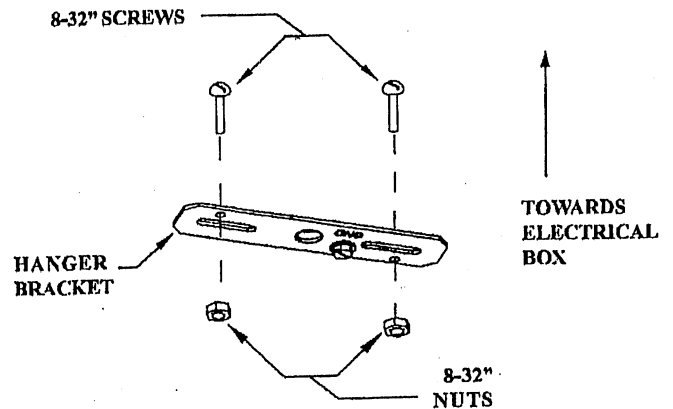

FIGURE 1
2. Locate and thread the two 8-32" screws, supplied in the sack parts, into the hanger bracket threaded holes as shown in Figure 1.